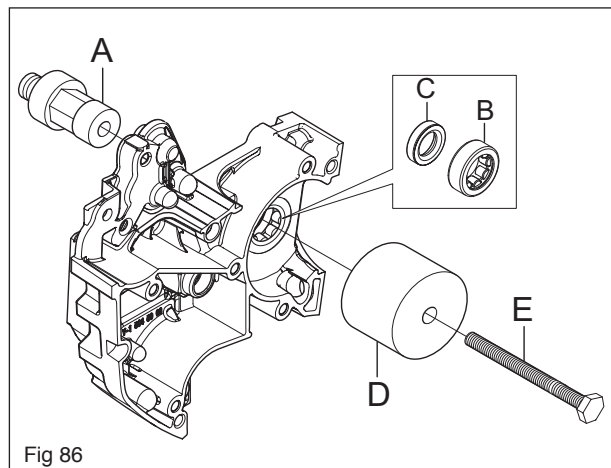

Fig 86
Use the 576 66 64-01 (A), 576 95 46-01 (D) and 725 23 80-51 (E) tools to dismantle the crankcase bearing (B) and sealing ring (C). Fit the service tool as outlined in Figure 86.